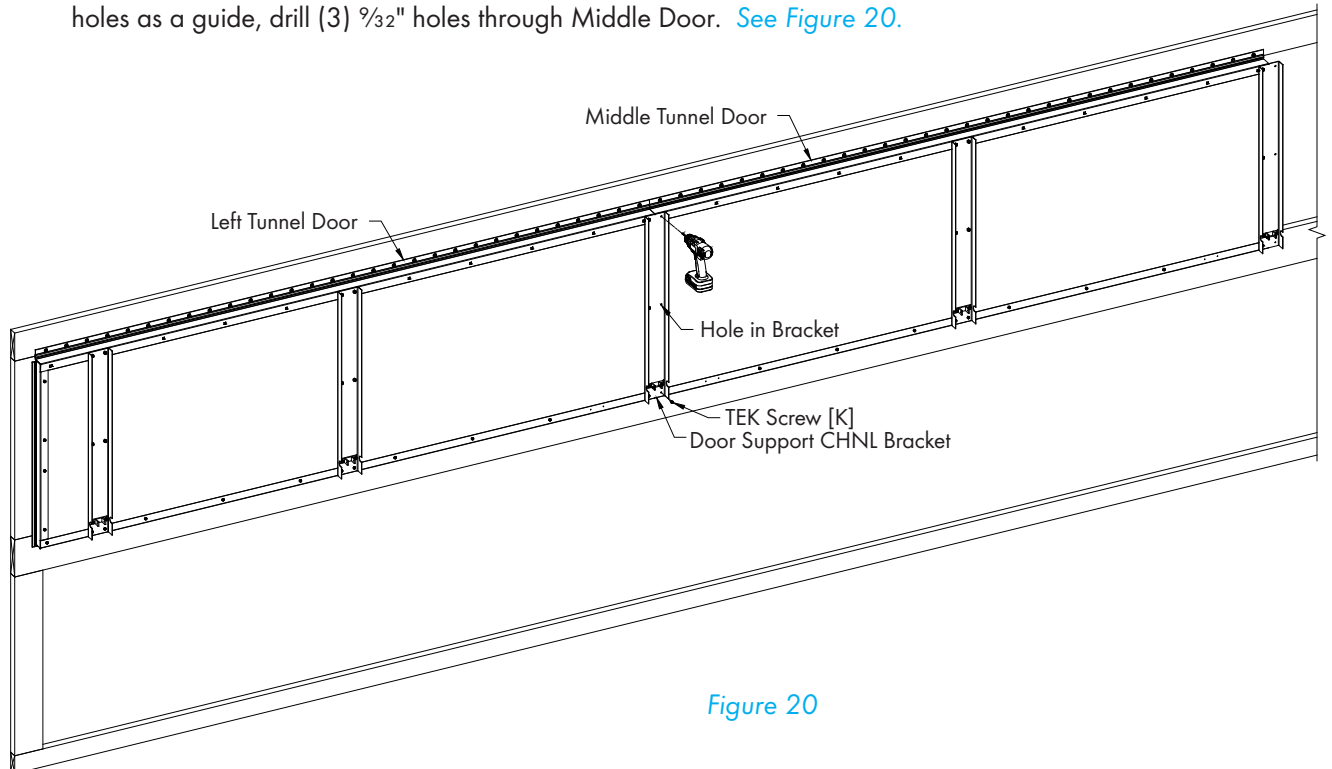

Figure 20
Secure Door Support CHNL Bracket from Left Door to Middle Door using (2) TEK Screws [K]. Then using the holes as a guide, drill (3) 3/32" holes through Middle Door. See Figure 20.